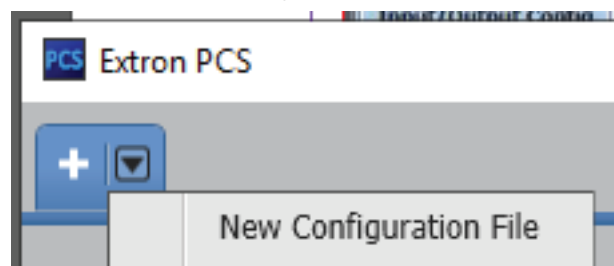

Figure 11. Configuration Drop-down List
1. Click the hidden menu icon (❶) to access a drop-down list (see figure 11, ❶).
2. Click **Extron PCS Help** to open the help file (❷).
1. In the **Start-up** tab drop-down list, select **New Configuration File** (see figure 11).